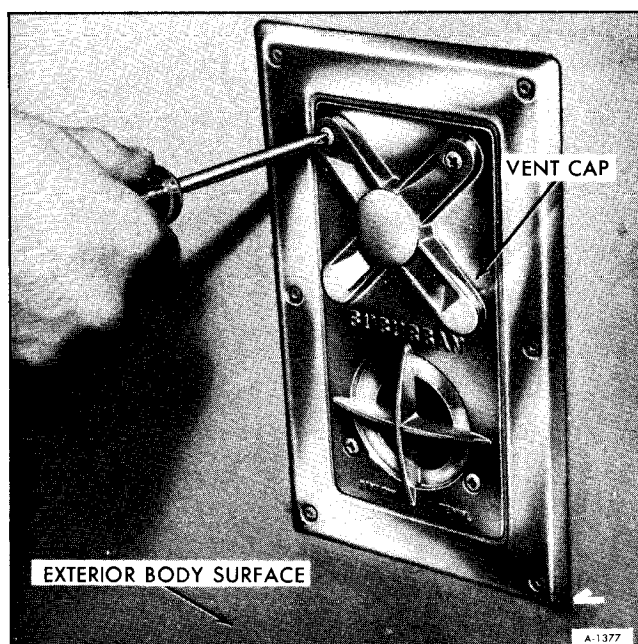

Figure 9—Removing Vent Cap
5. Remove the four vent cap screws (outside vehicle). Then remove the vent cap adapter screws (two) to free the exhaust tube (See figures 9 and 10).
2. Install vent cap adapter and be sure rubber cup is properly seated. Install the vent cap (outside vehicle) (See figures 9 and 10).